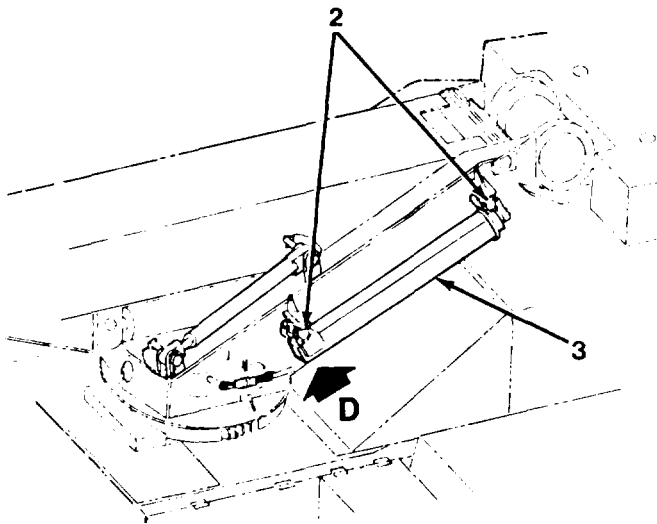

Figure 5-4. Storage Location D
- b. Lift mast (3) up off pivot bearing and stow in storage location D (Figure 5-4) on upperstructure.